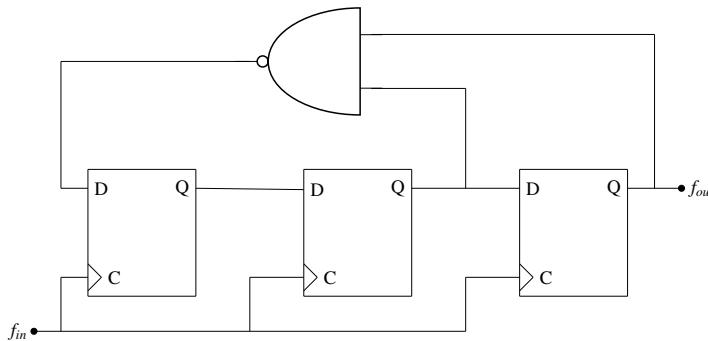

Fig. 5.21
21. Which of the following statements is true about digital circuit shown in Fig. 5.21? (GATE EE 2018)